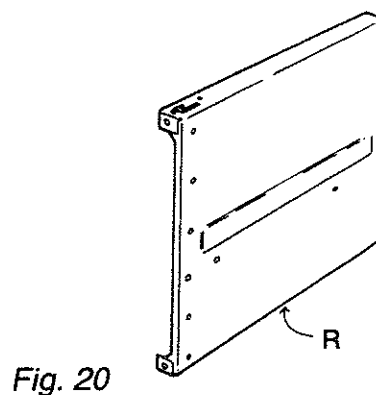

Fig. 20
12. Find the *right* and *left side panels*. Look carefully to find the "R" and "L" stamped in the metal near the center of the wide edge. These stamps are the easiest way to tell the *right side panel* from the *left*. (Figure 20)